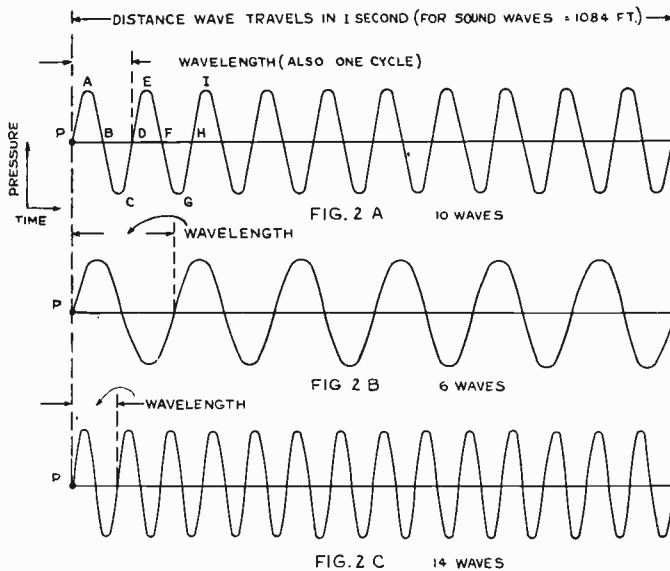

Fig. 2. Illustrating the terms cycle, wavelength, and frequency.
4. Frequency: The number of complete waves or cycles that pass a fixed point in one second is called the frequency. To show the relation between these familiar terms more clearly, let us refer again to Fig. 2, a. Suppose we have an instrument at point P which is producing the sound wave shown, having a frequency of 10 cycles, or complete waves, per second. Then in one second the disturbance will travel 1084 feet—this being the velocity of sound waves in air—taking it to point Q. In the space between P and Q there are 10 complete waves, because 10 waves have been produced during the second. Therefore, the
Now suppose the instrument at P is made to produce a sound wave of lower pitch, having a frequency of 6 cycles per second. This wave is shown in Fig. 2, b. Then in one second the disturbance travels 1084 feet as before, but since there are only six waves produced during this time interval, the length of each individual wave must be longer than in the previous case.
In Fig 2, c, the instrument is producing a wave of higher pitch, having a frequency of 14 cycles per second. In this case the wavelength is $1084 \div 14 = 77.4$ feet. It is evident from this illustration that as the frequency is decreased, the wavelength becomes greater, and as the frequency is increased